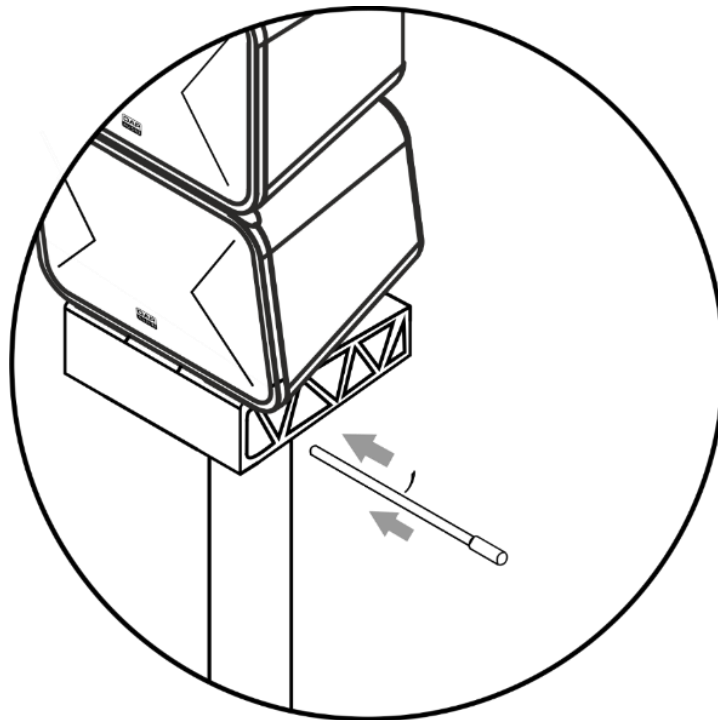

Fig. 02
- 03) Mount the first Xi-3 speaker on the Mobile Bracket and insert the rigging pin to secure it in position (fig. 02).